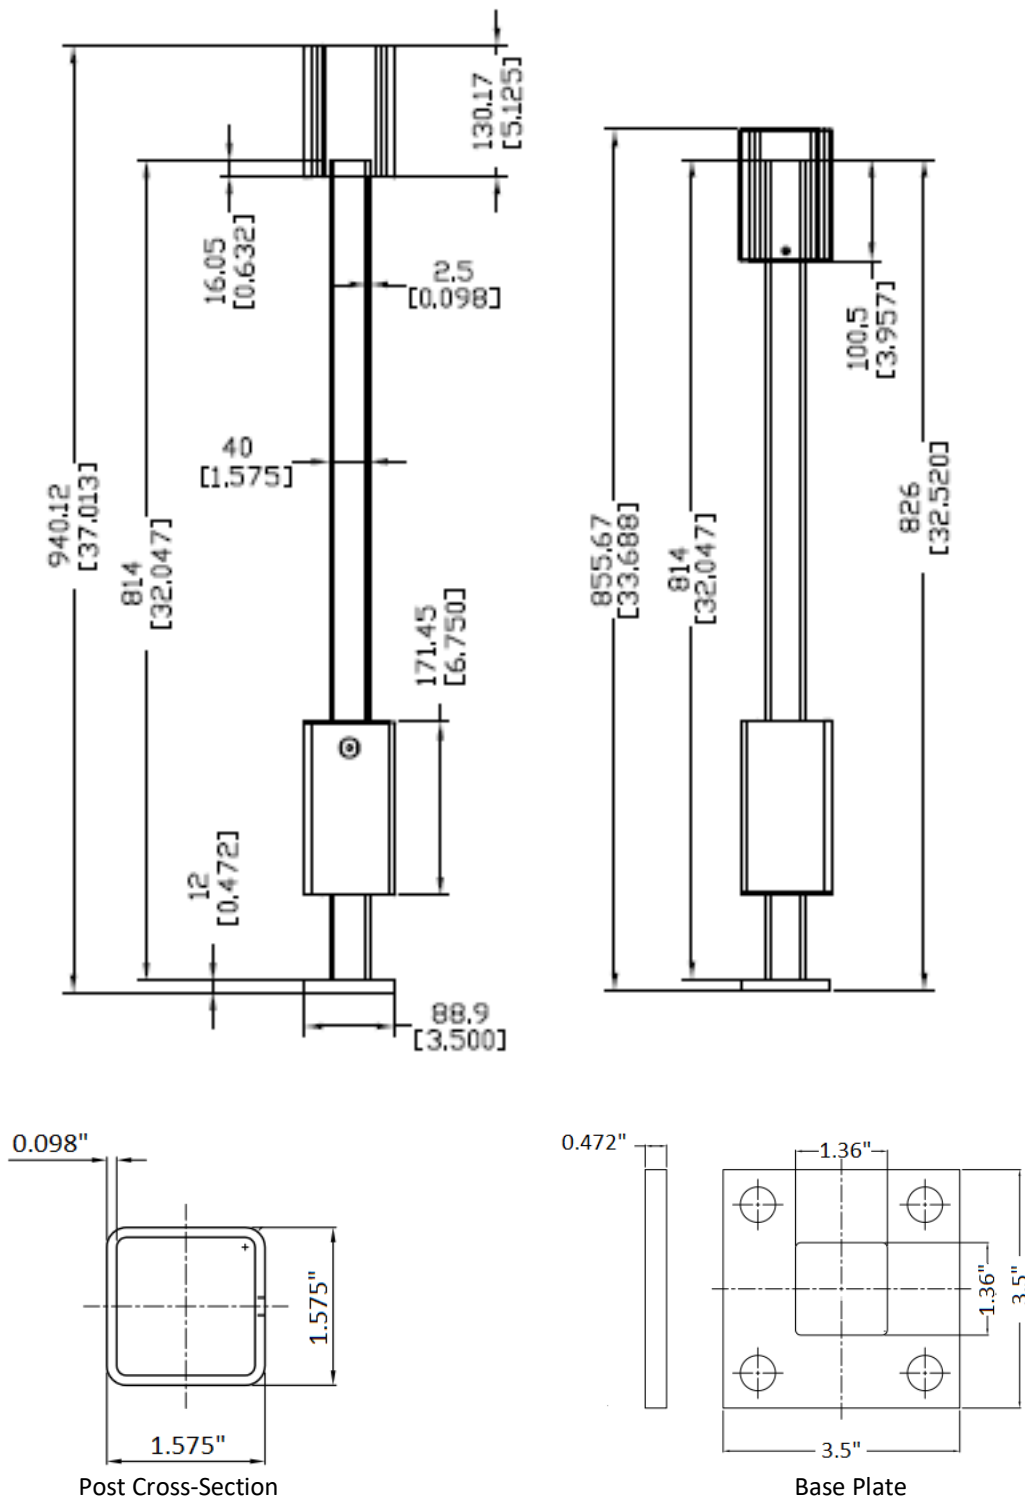

FIGURE 3 – ADVANTAGE PLUMB PERFECT POST MOUNT SYSTEM
3.5.1 Post – 1.575-inch-square x 0.098-inch-thick hollow steel tube (See Figure 3).
3.5.2 Base Plate – 3.5-inch-square x 0.472-inch-thick steel plate with (4) 0.52-inch-diameter holes at each corner (See Figure 3).